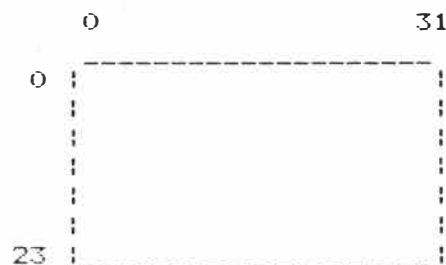

Fig. 1. Row and column coordinates for Logo tiles.
Now we'll position a tile on the screen. Logo uses PUTTILE (PT) followed by tile number, column number and row number (PUTTILE 200 12 10). Columns and rows are shown in Fig. 1. Notice that these coordinates are different from those used to position the Logo Turtle on the screen.